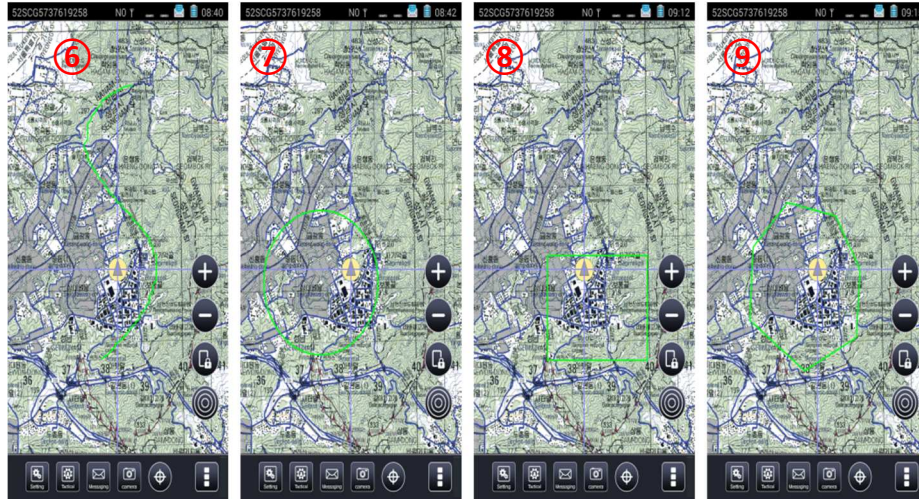

Figure 5-16 Hand sketch 2
⑥, ⑦, ⑧, ⑨ in Figure 5-16 Hand sketch 2 shows example of drawing of free line, circle, box and polygon respectively.